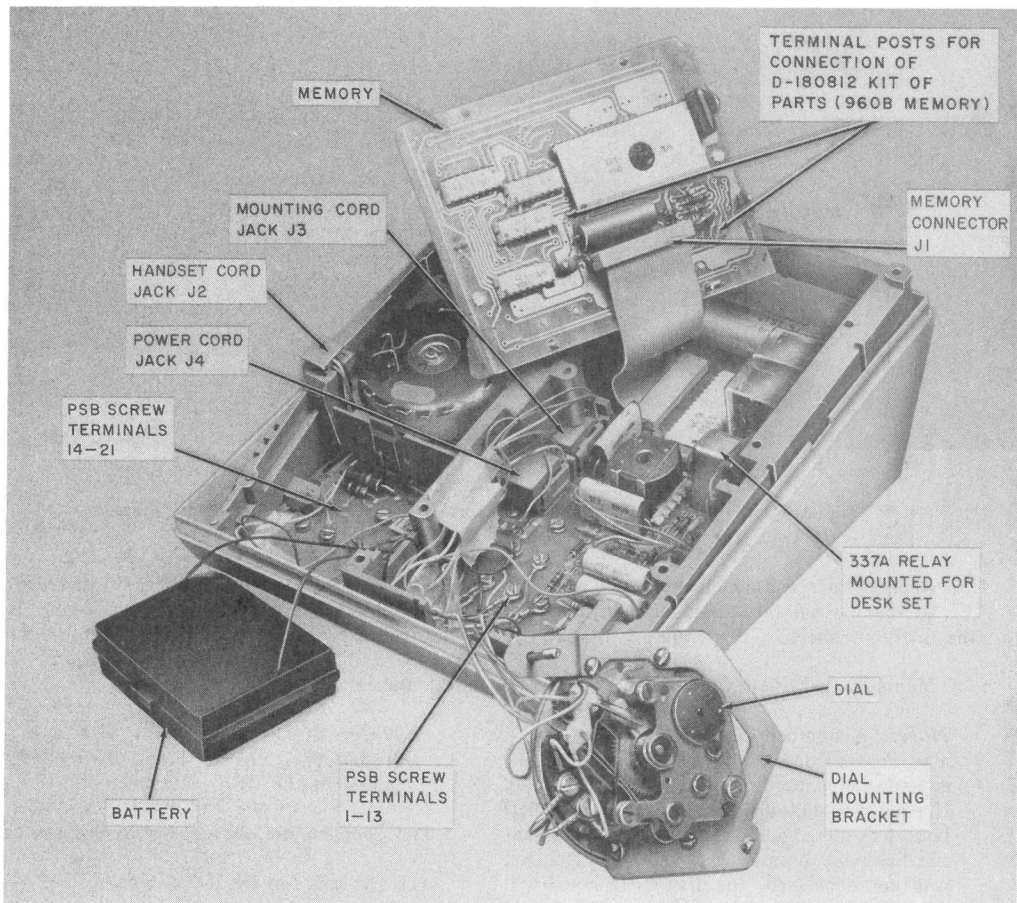

Fig. 6—960A01M Chassis and Lower Housing With Dial, Memory, and Battery Laid Aside, and Shield Removed
- (8) Rotate the right edge of the memory upward (Fig. 6) and connect the three leads to the terminal posts on the 960B memory per Table D.
- (9) With feature switch in OFF position, verify that set operates in normal manner:
- (10) Set switch to ON position and verify feature provided.
- (5) Rotate the right edge of the Memory upward.
(6) Disengage the connector at the Memory (Fig. 6) by pulling it perpendicular to the circuit board.
(7) Replace the Memory by engaging the connector. The connector is keyed, one position is filled and should fit over the vacant position in the row of pins. The cable should not be twisted.
(8) Tighten the four captive screws.
(9) Replace the shield and faceplate.
(10) Test per paragraph 3.12.
(11) Place the old Memory in shipping container of the new Memory (carton 900314535), affix a defective label and return to the repair location.